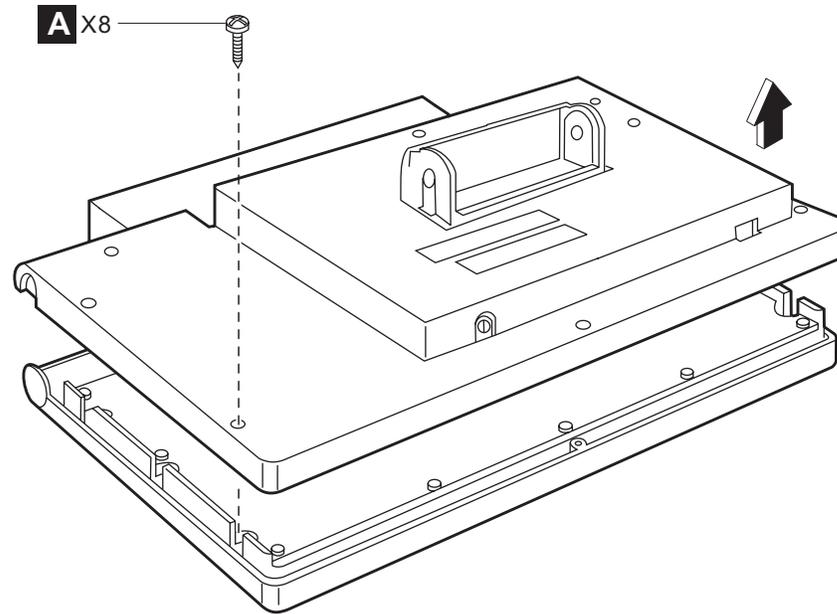

Figure 62. Removing the cover of the USB PLU keyboard/display
1. Remove the eight screws (**A** in Figure 62 on page 63).